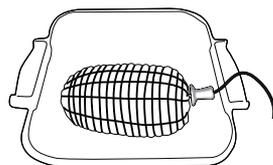
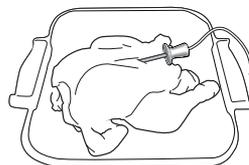

fig. 1
fig. 2
1. Insert the wire shelf horizontally, with the raised part “A” upwards (fig. 1).
2. The other accessories, like the drip tray and baking tray, are inserted with the raised part on the flat section “B” facing upwards (fig. 2).
(fig. 1)
(fig. 2)
It is very important to position the probe accurately in order to obtain perfect cooking results. Insert the probe fully into the fleshiest part of the meat, avoiding bones and fatty parts (Fig. 1). For poultry, the probe should be inserted sideways, in the middle of the breast, taking care to ensure the tip does not end up in a hollow part (Fig. 2). In the case of meat with very irregular thickness, check it is cooked properly before removing it from the oven. Connect the end of the probe in the hole located on the right wall of the oven chamber.